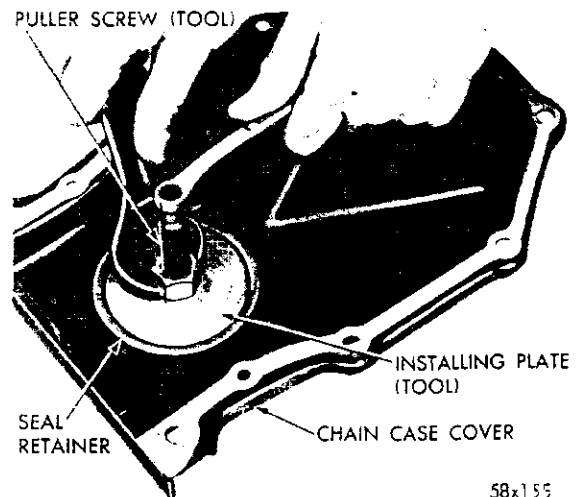

Fig. 30—Installing a New Seal
(4) Install the flat washer and nut on the puller screw, hold screw and tighten the nut (Fig. 30).